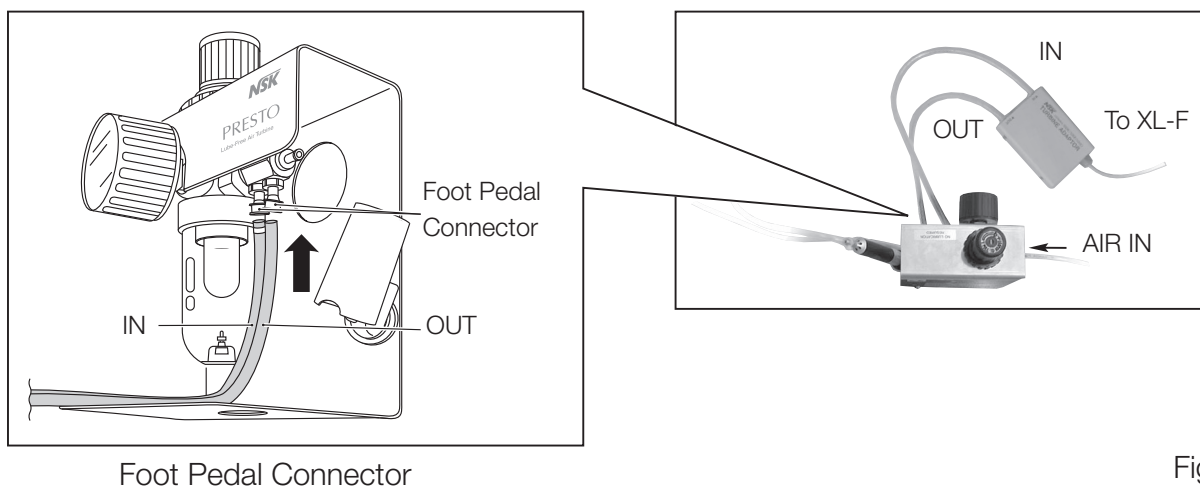

Fig. 4
Insert two hoses from the ③ Turbine Adapter into the openings for foot pedal connection in the air line kit. (Fig. 4)